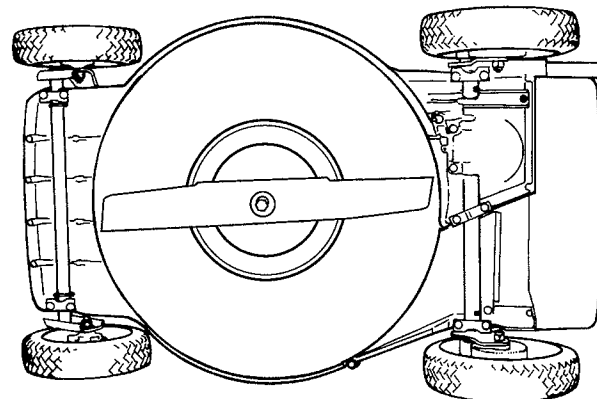

Figure 24
3. Tip mower on its right side (Fig. 24). Avoid rotating blade because starting problems may result.